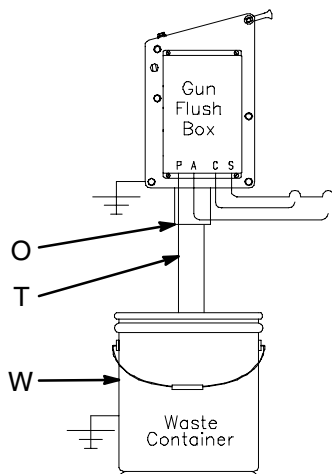
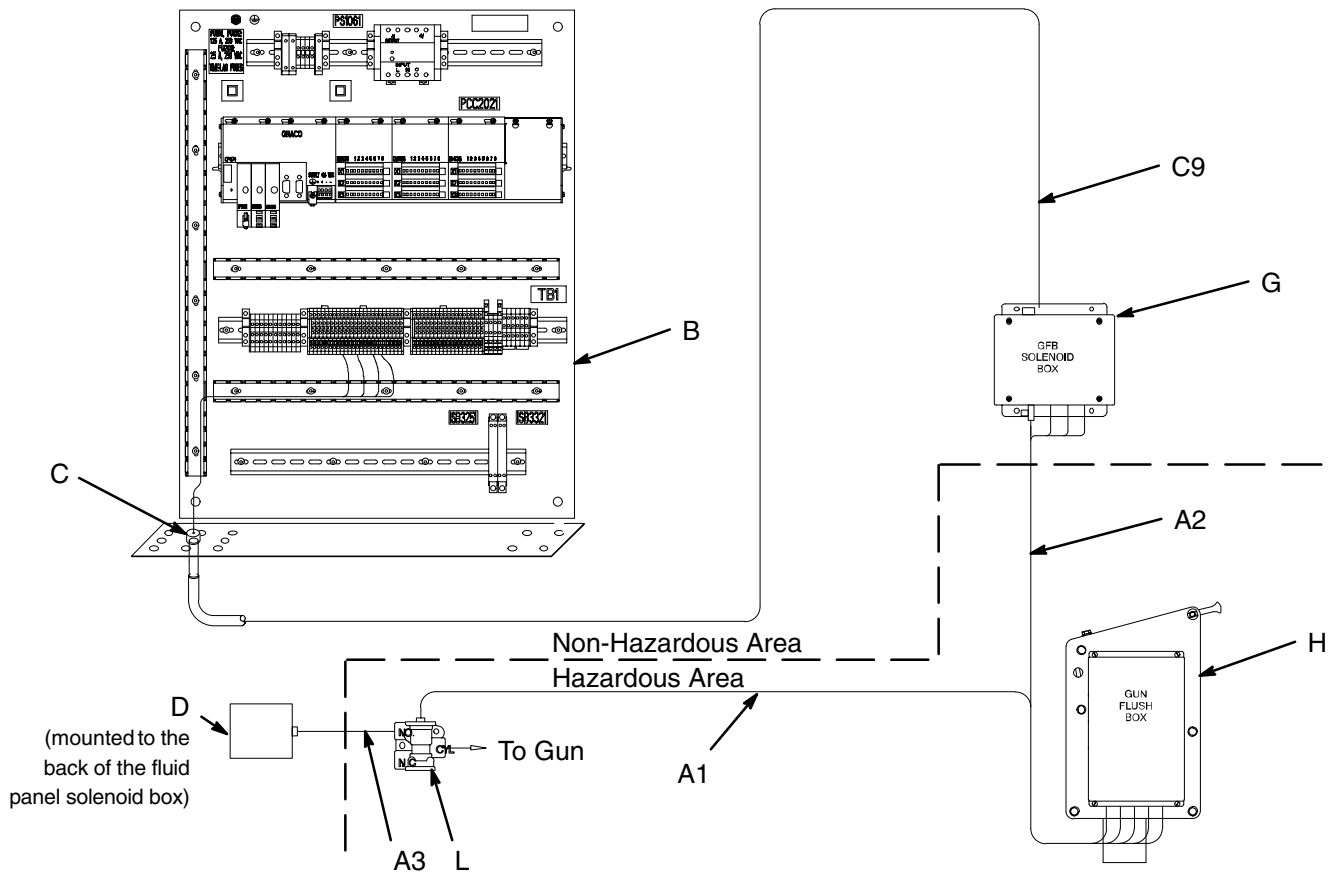

Fig. 3.15
Fig. 3.18 One Gun Flush Box Installation
1. See Fig. 3.18. Install the gun flush box (H) in the spray booth. Locate the Gun Flush Box as far away from the spray or application point as possible to help avoid getting over-spray on it.
2. Install the gun flush solenoid box (G) in the non-hazardous area, within 25 ft. (7.6 m) of the gun flush box. 100 ft. (30.5 m) of cable (C9) is provided, connecting the solenoid box with the controller (B).
3. Connect two feet (0.6 m) of straight pipe or tubing (T) between the Gun Flush Box fluid outlet (O) and an enclosed waste container (W). See Fig. 3.15.
5. Use a clean, dry air supply; filtered to 10 microns. Connect a minimum 3/8 in. (10 mm) air supply line to the gun flush box solenoid box (G).
6. Install an atomizing air shutoff valve (L) in the spray gun air supply line. See Fig. 3.18 or 3.19.
7. Connect an air line (A3) between the valve (L) and the air flow switch (D).
- * Connect to the atomizing air shutoff valve (L). See Figs. 3.18 and 3.19.